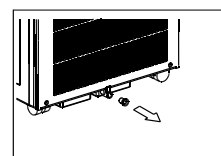

Fig.15
- When you plan to leave this unit unused for a long time, remove the bottom rubber plug from the back hole and attach a section of the continuous drain hose. All the water in the bottom tray would drain outside through the drain hose.(See Fig.15)